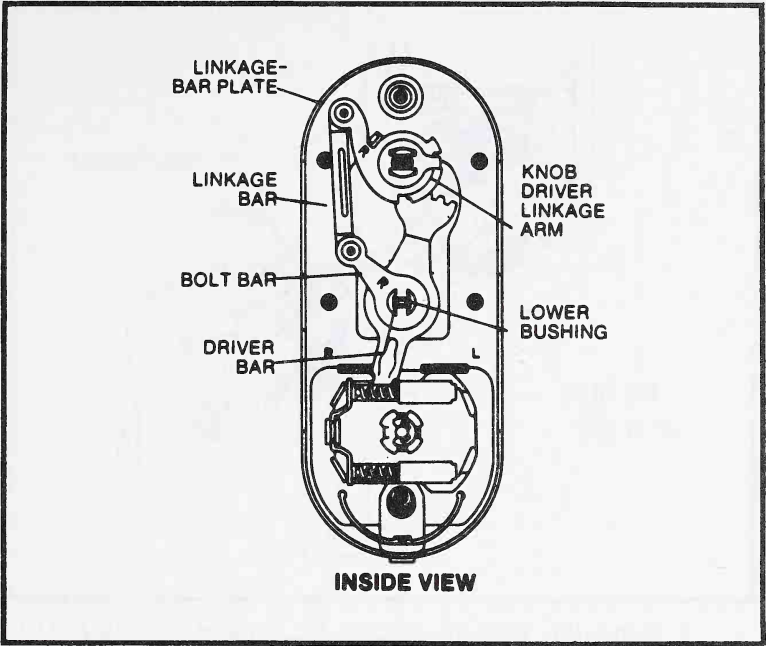

Fig. 18-51.
3. Remove the linkage-bar plate, linkage bar, bolt bar, driver bar, knob-driver linkagearm, and lower bushing (Fig. 18-51).